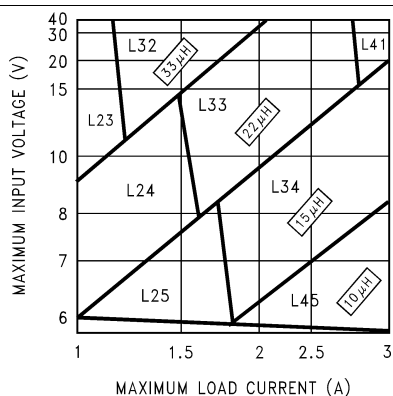
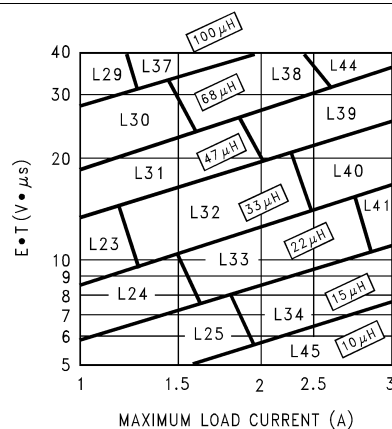

Figure 14. LM2673-3.3
Figure 17. LM2673-ADJ
Step 3: Determine the inductor required by using one of the four nomographs, Figure 14 through Figure 17. Table 3 provides a specific manufacturer and part number for the inductor.
Step 5: Determine an input capacitor from Table 5 and Table 8 for fixed output voltage applications. Use Table 1 or Table 2 to find the specific capacitor type. For adjustable output circuits select a capacitor from Table 1 or Table 2 with a sufficient working voltage (WV) rating greater than V_{IN} maximum, and an RMS current rating greater than one-half the maximum load current (2 or more capacitors in parallel may be required).
Step 3: Use the nomograph for the 3.3-V device, Figure 14. The intersection of the 16-V horizontal line ($V_{IN \text{ max}}$) and the 2.5-A vertical line ($I_{LOAD \text{ max}}$) indicates that L33, a 22- μH inductor, is required.